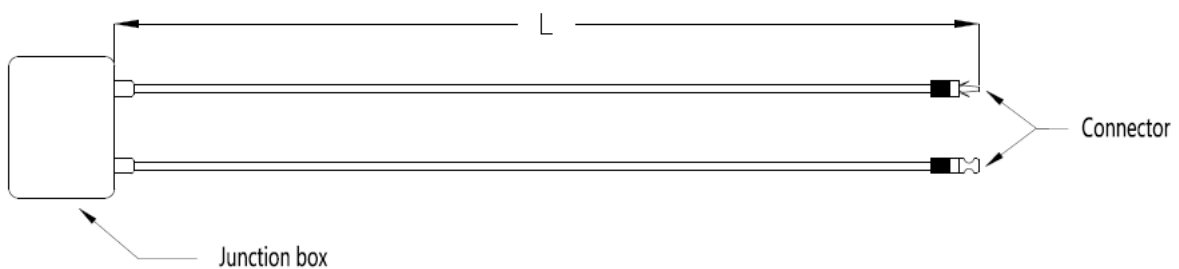

Figure 8: Junction box
- h) The cable of the junction box is defined as L, as showed below in Figure 8. For Jinko standard module, L is 900/1200mm; and for customized module, L can be based on your condition. Please take the cable length into consideration before designing the wiring layout.